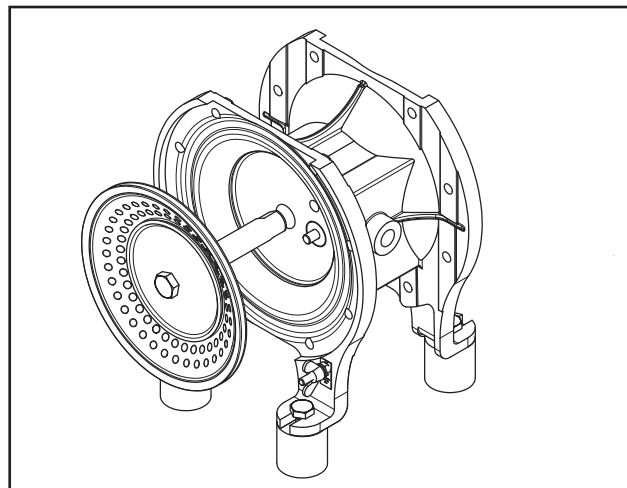

Fig. 21: Pulling out the diaphragm with piston rod
- Loosen the outer diaphragm plate and remove with the diaphragm (Fig. 10 + Fig. 21).
also see 5.3.2.3. Deviating from fig. 21, loosen the diaphragm plates first of all. Remove the piston rod separately from the control block.